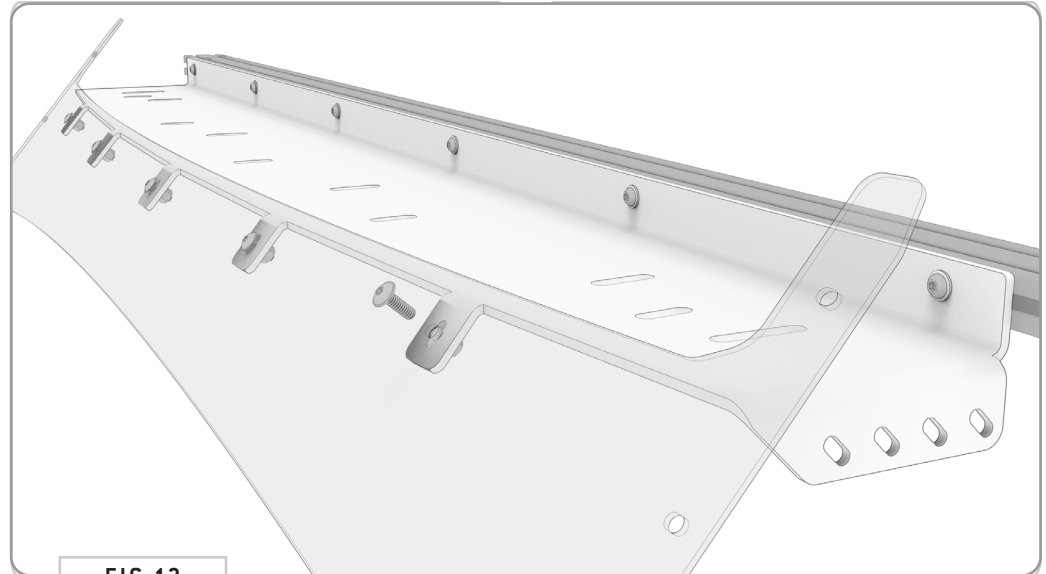

FIG 13
**4.3 Attach Front Fairing:** Attach the Front Fairing to the Assembly using 1/4-20 x 0.75 Flanged Button Head Screws, Flat Washers and Nylon Locknuts (FIG 13 + 14).